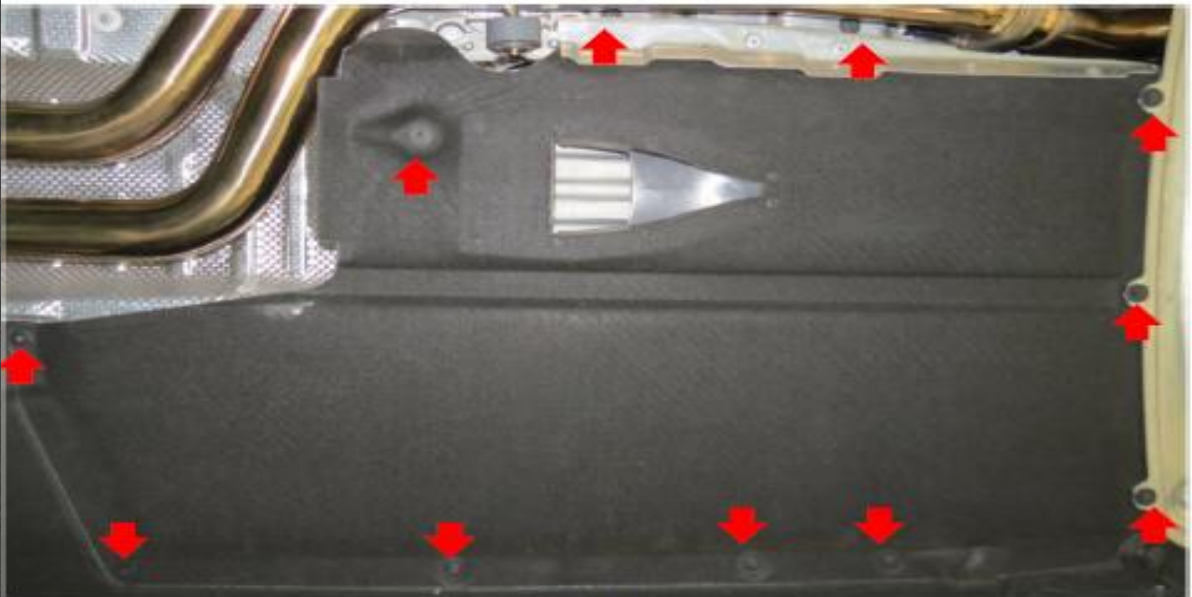

Figure 1-1
1. Use the 8mm wrench to remove the lower guard. Figure 1-1